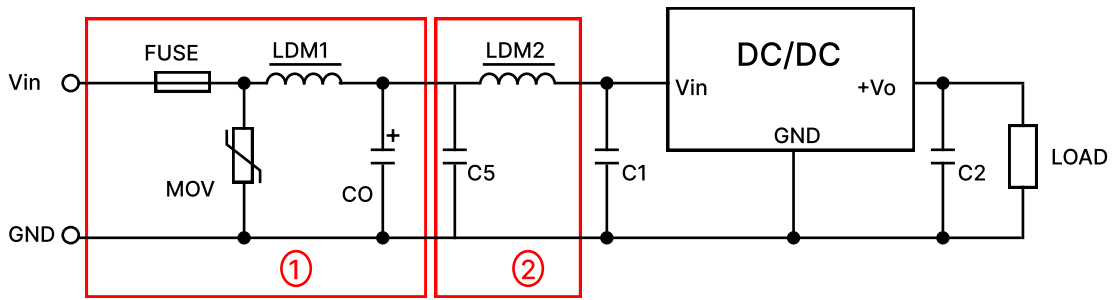

Figure 2: EMC Typical Recommended Circuits
Radiation Disturbance	CISPR32/EN55032 CLASS B (The recommended circuit is shown in Figure 2)
2. EMC requirements: For situations with high EMC requirements, a typical EMC recommended circuit is shown in Figure 2.